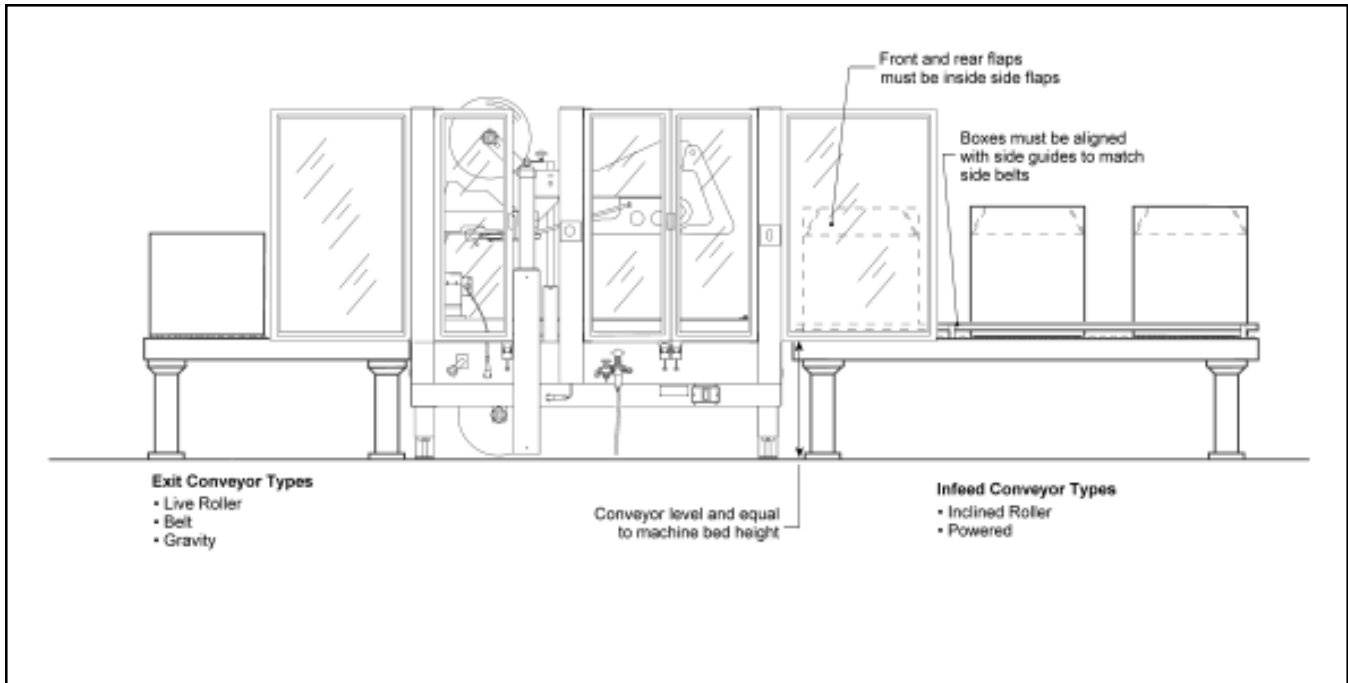

Figure 2-3 – Conveyor Systems
- e. Refer to Figure 2-3 for suggested conveyor types that can be used with the case sealer.